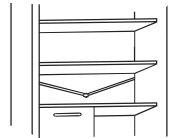

Fig.20
- Keep the drainage pipe (fig.20) clean in the refrigerator compartment to keep it free of water.